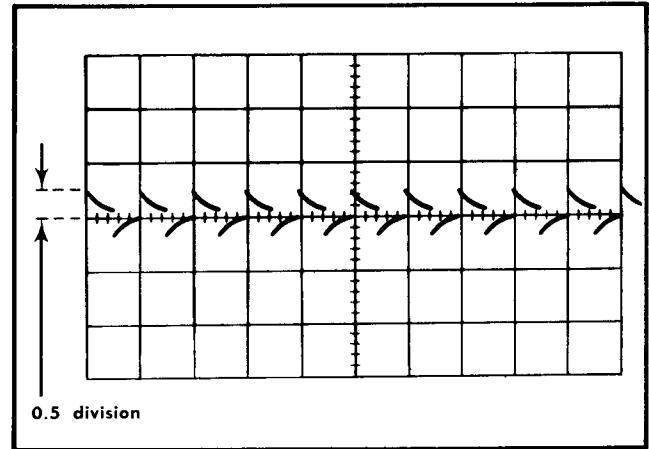

Fig. 6-66. Typical CRT display when checking calibrator current.
- f. CHECK—CRT display 0.5 division in amplitude (see Fig. 6-66).